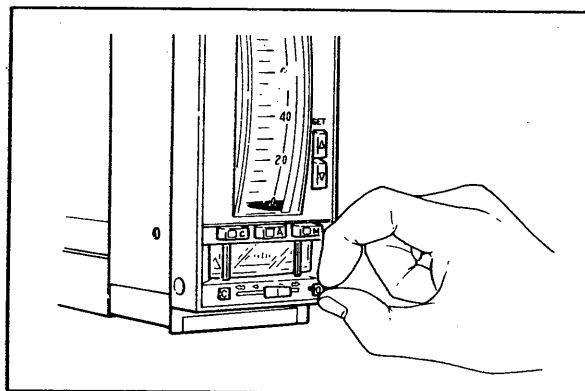

Figure 5-2-4. Setting Valve Open/Close Indexes.
- (1) Setting valve open/close indexes (See Figure 5-2-4.)